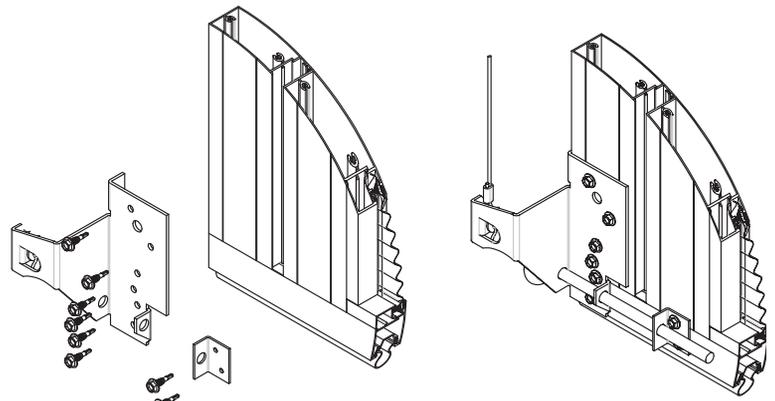

Fig: 5.3.1
- Secure the bottom hanger and bottom panel bracket to the bottom panel with tek screws as shown in Fig 5.3.1.